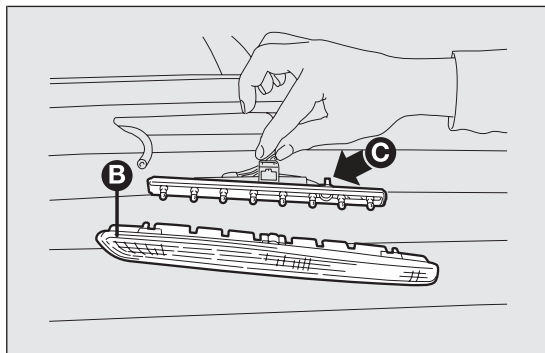

fig. 171
- ☐ extract the lens unit B fig. 171 and disconnect the electrical connector;
- ☐ press in the tabs C fig. 171 and remove the bulb holder;